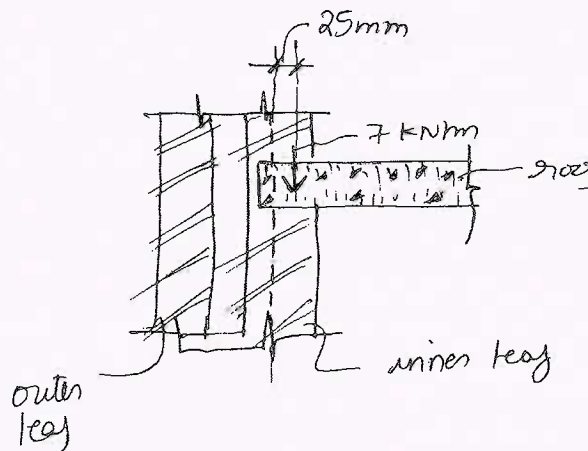

Fig.Q8
- 8 Design an external wall of a single storeyed building, the inner leaf of which supports an eccentric load of 7 kN/m at an eccentricity of 25 mm. The wall is an unstiffened one which supports a concrete roof at the top and rests over a foundation block. Height of wall is 4m. [Refer Fig.Q8]